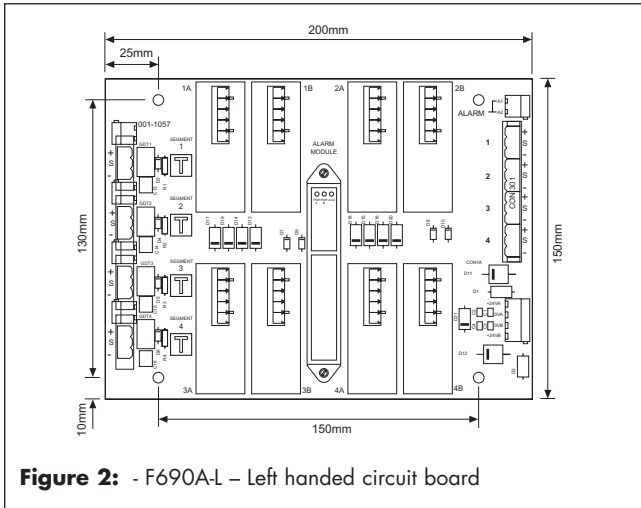

Figure 2: - F690A-L – Left handed circuit board
Board dimensions and hole positions for the left-handed (i.e. F690A-Lx models) and right-handed (i.e. F690A-Rx models) are shown in figures 2 and 3 above.
It is recommended that the F690A assembly be mounted on a vertical surface with the orientation of the IPM modules as shown in figures 2 and 3 above.
Refer to figures 2, 3, 5 and 6.
- Prepare holes in the mounting surface at centres as shown in figures 2 and 3, tapping these if retaining nuts are not required.
- Insert the screws through the carrier at each mounting centre (figures 2 and 3).
Refer to figures 2, 3, 6, 7 and 8.
- Clip the four mounting feet (7) to the DIN rail (8) at the centres shown in figures 2 and 3.
The board connections are located on the left and right-hand edges of the board. Refer to figures 2 & 3 for details and positions.